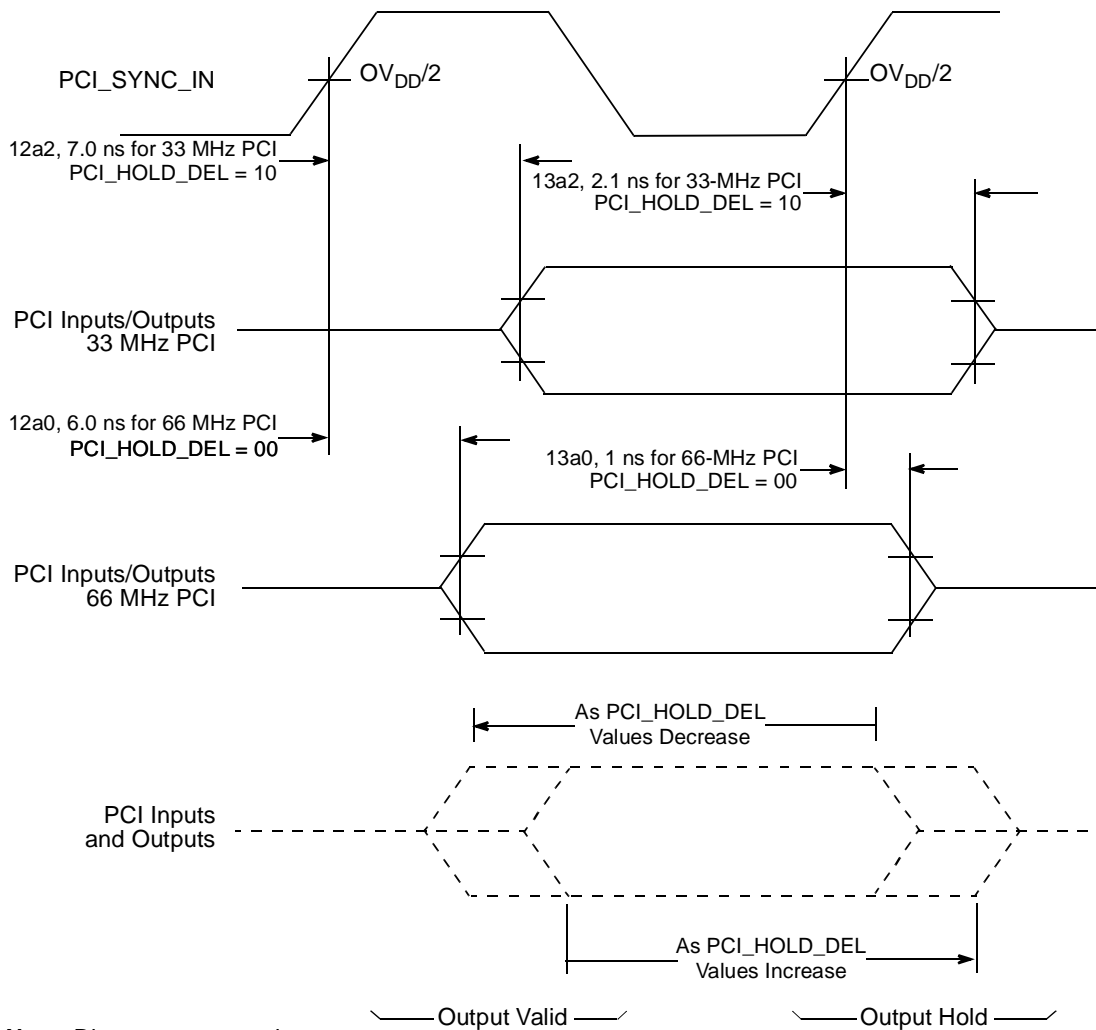

Figure 15. PCI_HOLD_DEL Effect on Output Valid and Hold Times
12a	PCI_SYNC_IN to output valid, see Figure 15
13a	Output hold (PCI), see Figure 15
4. To meet minimum output hold specifications relative to *PCI_SYNC_IN* for both 33- and 66-MHz PCI systems, the MPC8245 has a programmable output hold delay for PCI signals (the *PCI_SYNC_IN* to output valid timing is also affected). The initial value of the output hold delay is determined by the values on the \overline{MCP} and \overline{CKE} reset configuration signals; the values on these two signals are inverted and stored as the initial settings of $PCI_HOLD_DEL = PMCR2[5, 4]$ (power management configuration register 2 <0x72>), respectively. Since \overline{MCP} and \overline{CKE} have internal pull-up resistors, the default value of PCI_HOLD_DEL after reset is 0b00. Further output hold delay values are available by programming the PCI_HOLD_DEL value of the $PMCR2$ configuration register. Figure 15 shows the PCI_HOLD_DEL effect on output valid and hold times.
Figure 15 provides the PCI_HOLD_DEL effect on output valid and hold times.